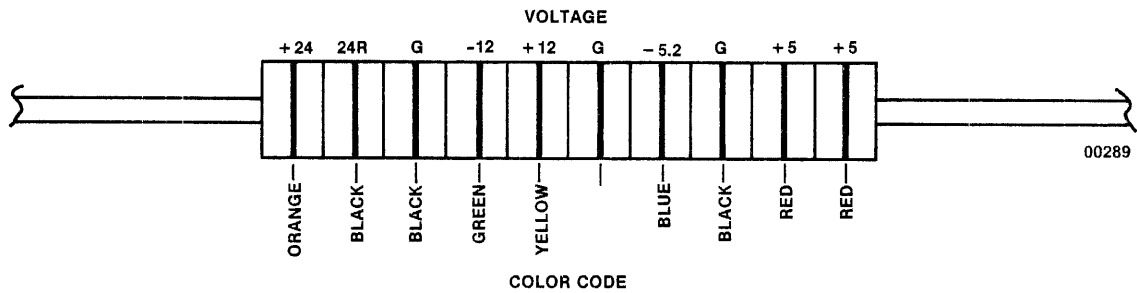

Figure 5-6 Voltage Test Points, Finch DC Power Connector
2. DC output voltages are checked at the Winchester disk drive power connector. The power connector is located in the FINCH Adapter Board (attached to the rear of the drive). Refer to Figure 5-6 for connector orientation and voltage test points.